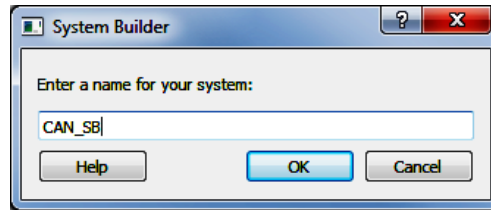

Figure 7 • Create New System Builder
7. Enter **CAN_SB** as name in the **System Builder** dialog box as shown in Figure 7.